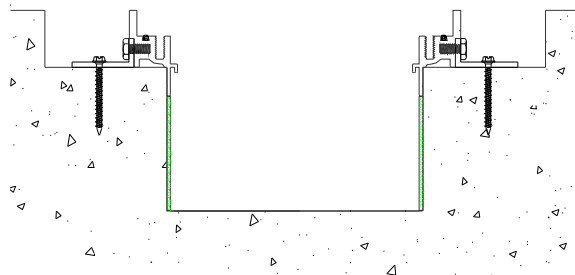

Figure 6
STEP 7. Place grout (by others) below the frame flange, see Figure 6